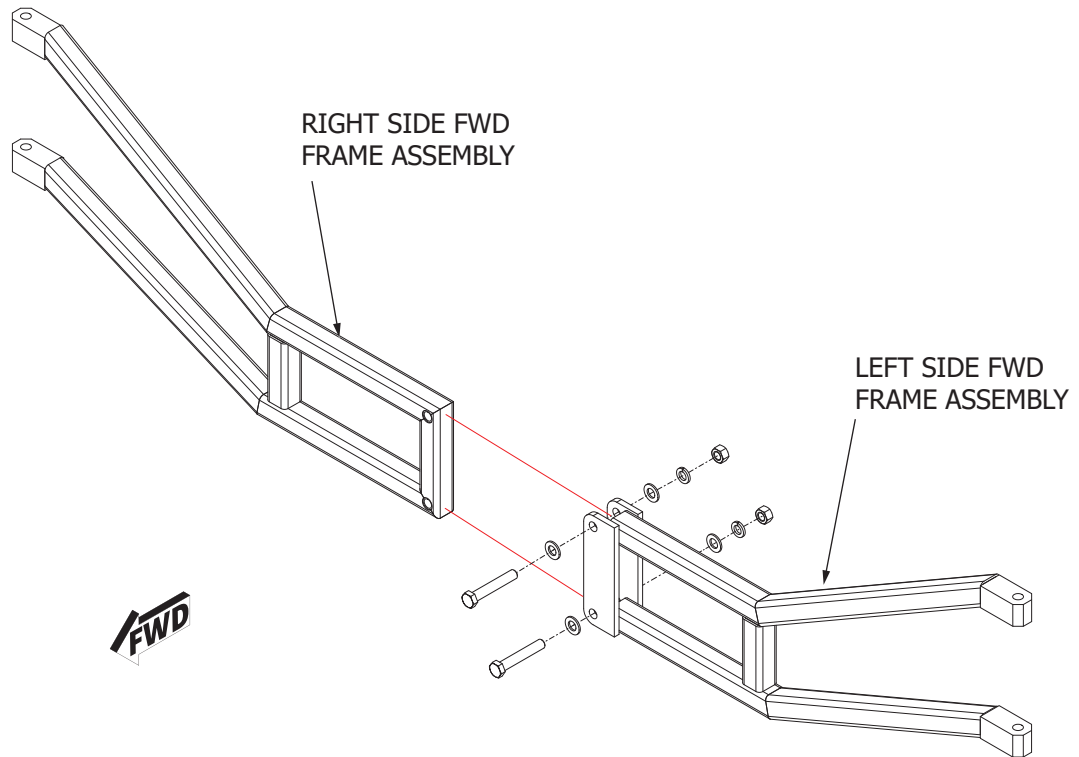

Figure 5.1-2 FWD Frame Halves.
- 3) Assemble the FWD and AFT frame halves (left and right pieces) together with the hardware provided. See Figure 5.1-2 & 5.1-3.